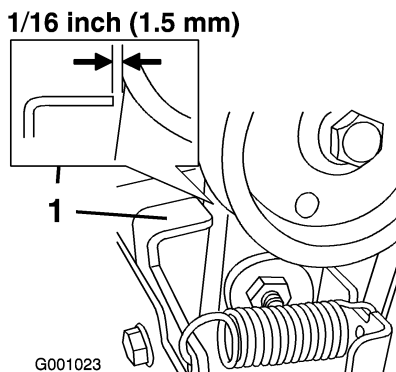

Figure 39
3. With the auger/impeller lever disengaged, ensure that the gap between the auger clutch assembly and the tab is 1/16 inch (1.5 mm) (Figure 39).